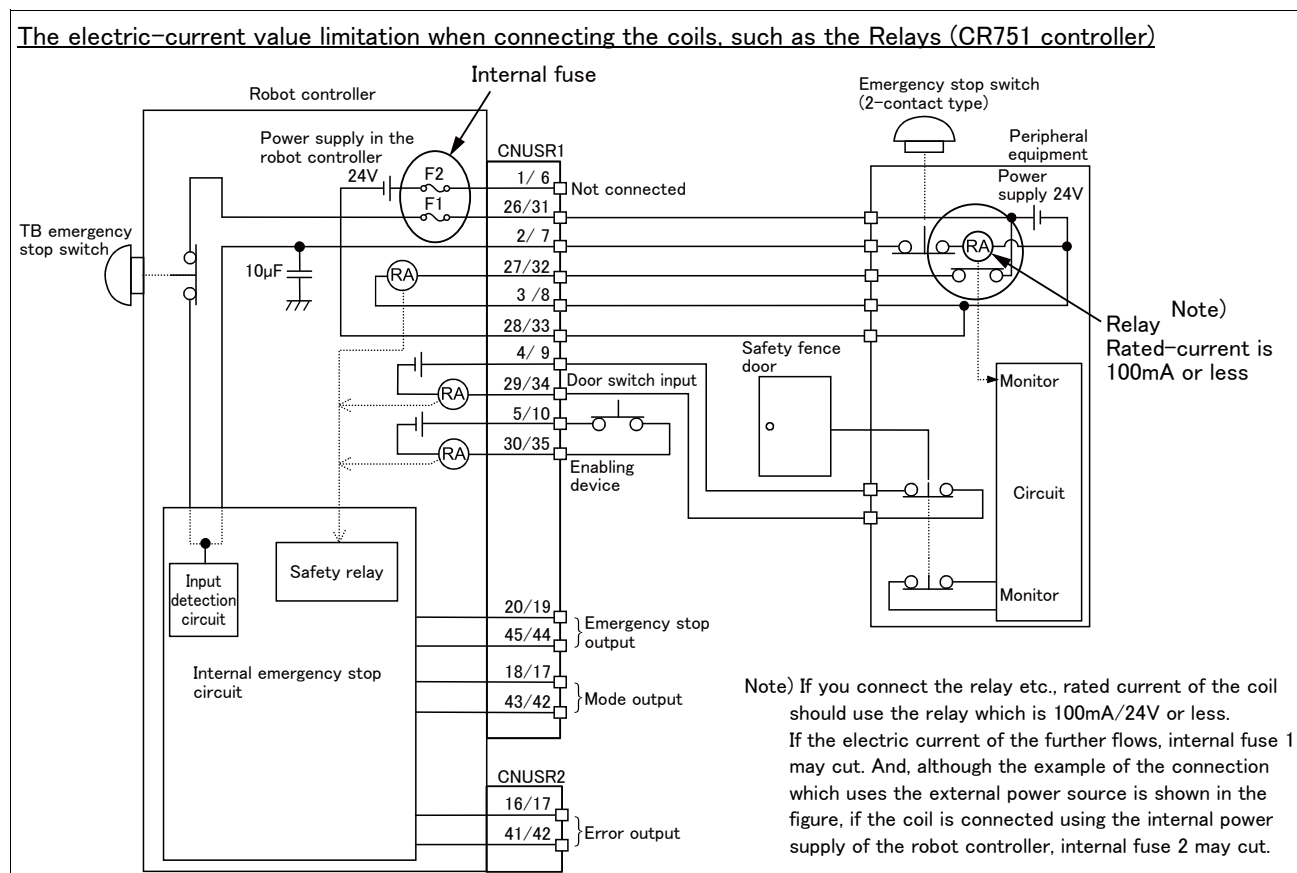

Fig.6-6 : Limitations when connecting the relay etc. (CR751)
- If you connect the relay etc., rated current of the coil should use the relay which is 100mA/24V or less. (Refer to Fig. 6-6)